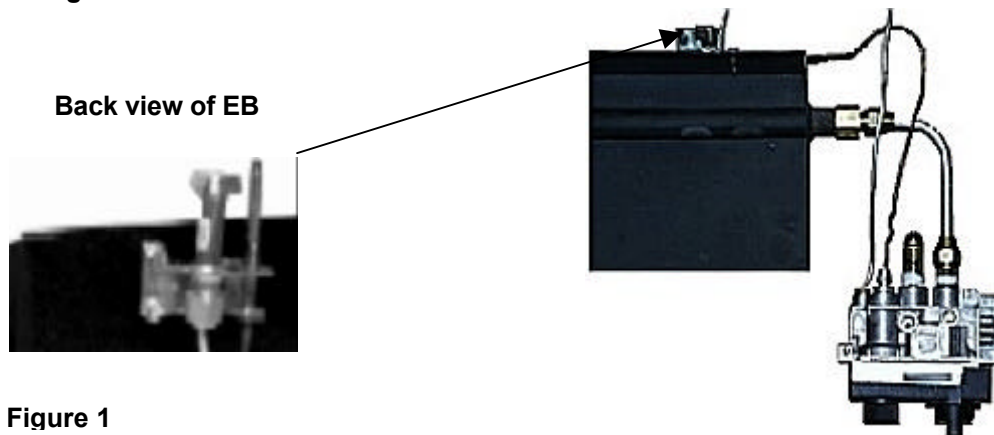

Figure 1
4. Use the #8 screws (not illustrated) to attach the RSTPB-18 pilot assembly to the back side of the burner pan in the pre-drilled holes. Attach the pilot so that the pilot burner is above the back wall of the Ember Burner pan. **See Figure 1**
Install the silver tubing from the RSTPB-18 into the pilot gas tap, turning until finger-tight. Tighten an additional 1 1/2 turns. **See Figure 1**
The thermocouple connector should be clean for good electrical contact. Run the thermocouple nut into the thermocouple connection as far as possible by hand. Turn the fitting an additional 1/4 turn. **See Figure 1**